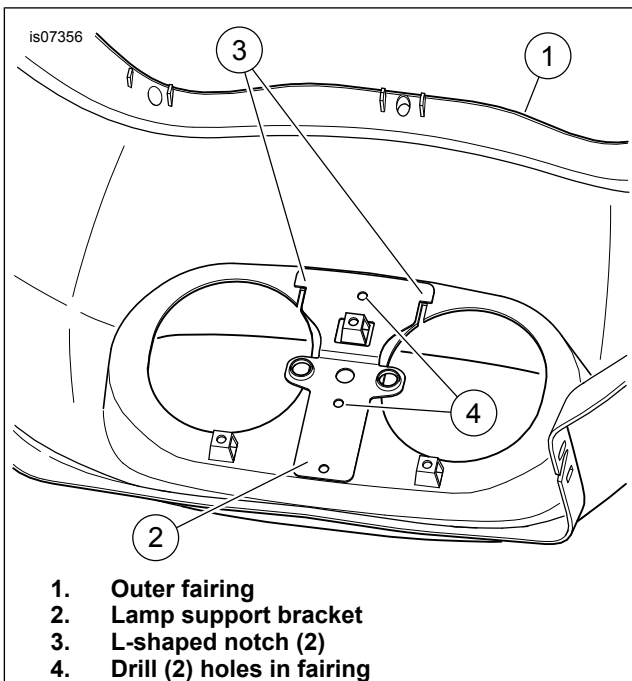

Figure 1. Install Lamp Support Bracket
- d. See the service manual to remove the headlamp assembly. Use of the original equipment (OE) clear headlamp cover is not permitted over LED headlamps. It will not be reinstalled, and can be recycled or properly disposed of.
3. See Figure 2. Get the lamp support bracket (16) from the kit. Test-fit the bracket to the back side of the outer fairing, between the headlamp openings as shown in Figure 1 before installation. Do not remove the liners until ready to apply the bracket.